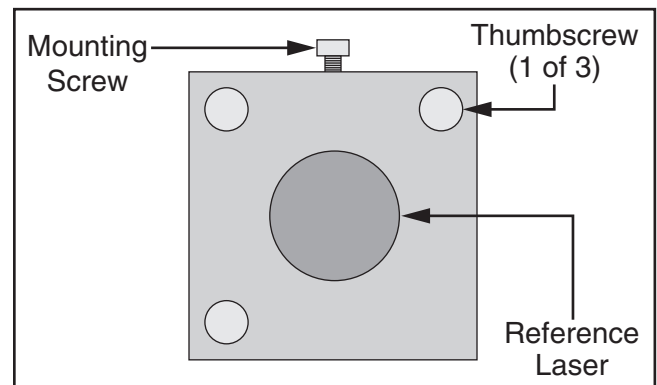

Figure 119. Reference laser adjustment.
3. Locate (3) thumbscrews behind reference laser used to adjust beam path through cabinet (see **Figure 119**).